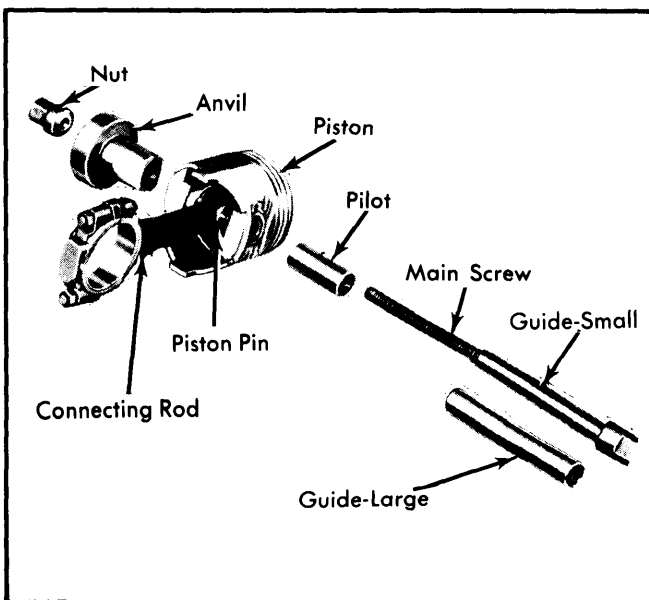

Fig. 8 Correct Procedure to Remove Piston Pin
**Removal** — Arrange piston pin removal tool C-3724 (or equivalent), as shown in Fig. 8. Spring must be removed from anvil. Install nut loosely on main screw. When pin falls from connecting rod, stop press to prevent damage to bottom of anvil.